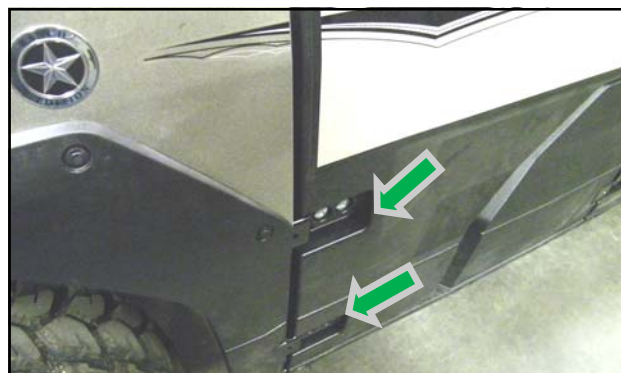

Fig. 1.1 Factory Doors (2)
**1.1** Per figure 1.1, remove left and right half doors.